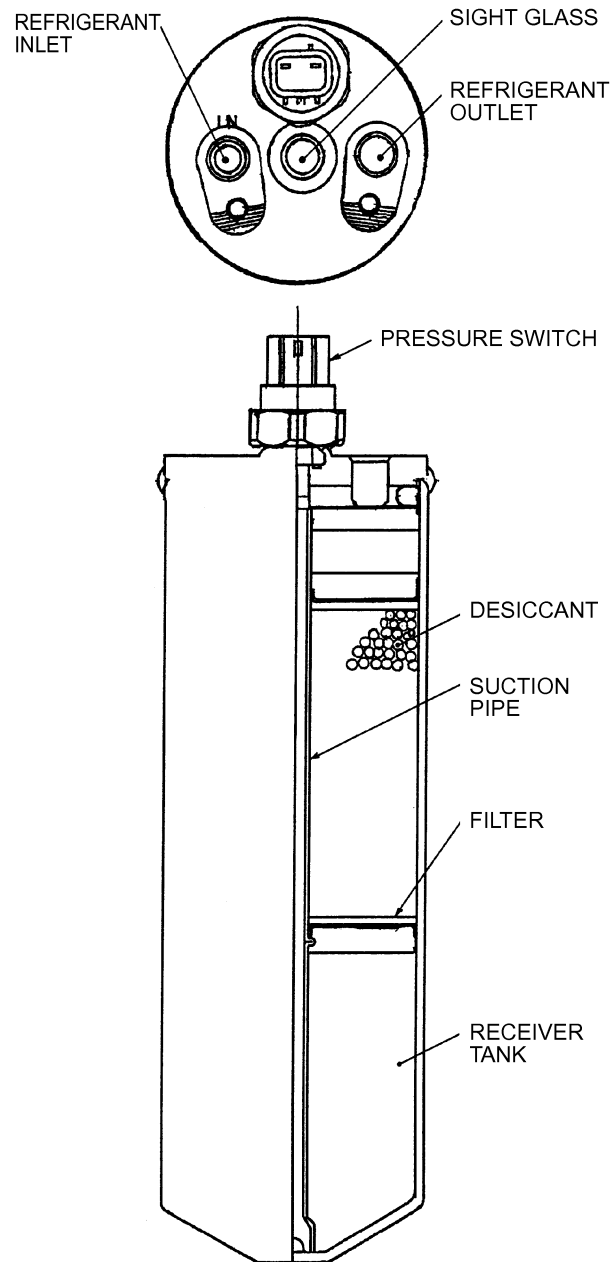

Fig. 25-14
(5) Receiver dryer (See Fig. 25-14.)